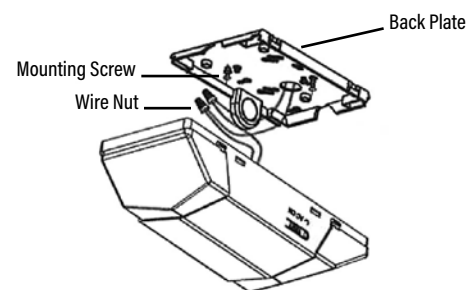

FIG. 5 LED PCBA
6. Plug battery male connector into battery female connector on PCBA. (Fig. 5)